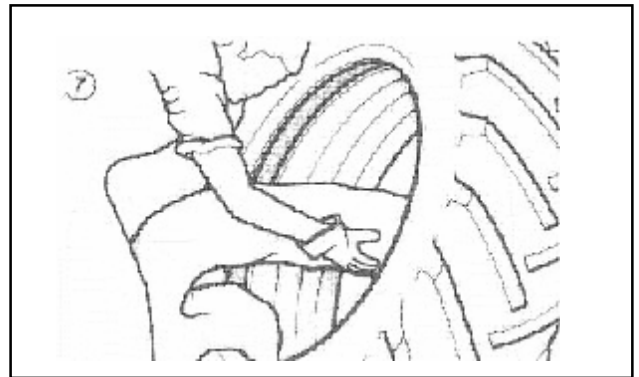

Fig. 6
- With the wheel in a vertical position, pull the tire forwards and remove the tube. (Fig. 6).